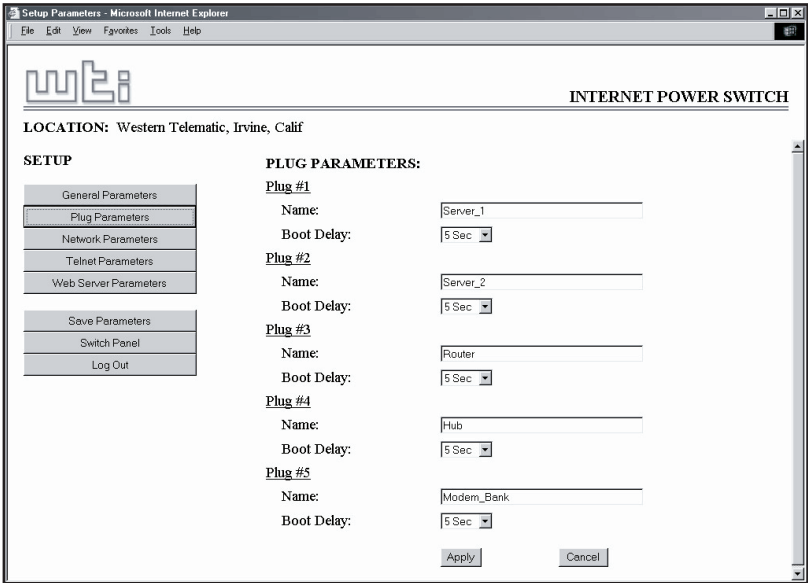

Figure 5.5: Plug Parameters Menu - Web Browser Interface
**Web Browser Interface:** Click the "Setup" button to access the configuration menus, then click the "Plug Parameters" button. The Plug Parameters Menu will be displayed as shown in Figure 5.5.